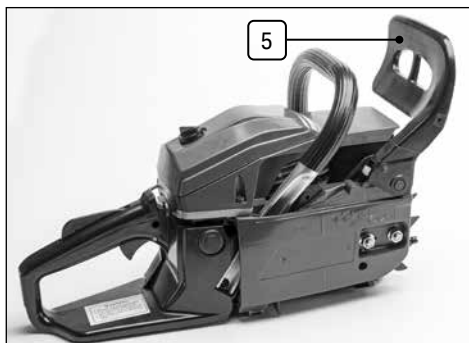
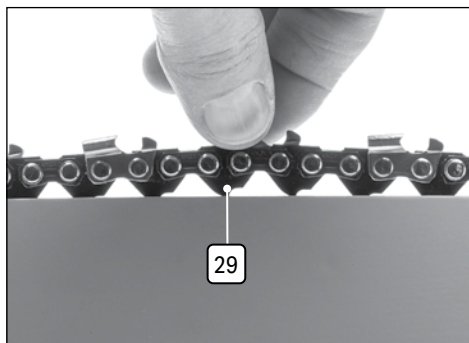

Fig. 1
Fig. 8
6.1 Attaching/Adjusting Guide Bar and Chain (Fig.1 – Fig.8)
1. Position the power head as shown in Fig.1 – ensure the chain brake is disengaged. To disengage, pull the chain brake lever **(5)** forward.